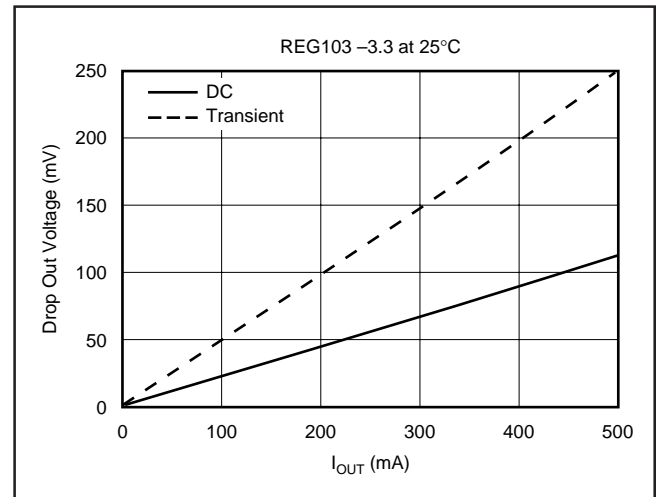

FIGURE 10. Transient and DC Dropout.
regulator's input-to-output resistance is the  $R_{dsON}$  of the DMOS pass element (typically 230mΩ). For static (DC) loads, the REG103 will typically maintain regulation down to  $V_{IN}$  to  $V_{OUT}$  voltage drop of 115mV at full rated output current. In Figure 10, the bottom line (DC dropout) shows the minimum  $V_{IN}$  to  $V_{OUT}$  voltage drop required to prevent drop-out under DC load conditions.
For large step changes in load current, the REG103 requires a larger voltage drop across it to avoid degraded transient response. The boundary of this “transient drop-out” region is shown as the top line in Figure 10. Values of  $V_{IN}$  to  $V_{OUT}$  voltage drop above this line insure normal transient response.